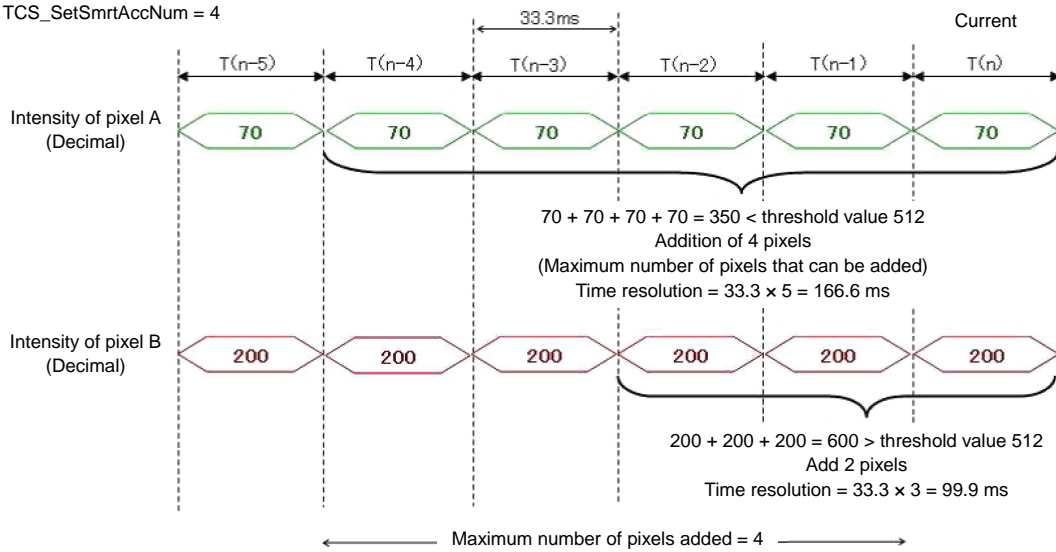

Figure 7-2 SmartAccumulation2
As shown in pixel A in Figure 7-2, pixels will not be added exceeding the maximum number even if the intensity does not exceed the intensity threshold value (512).